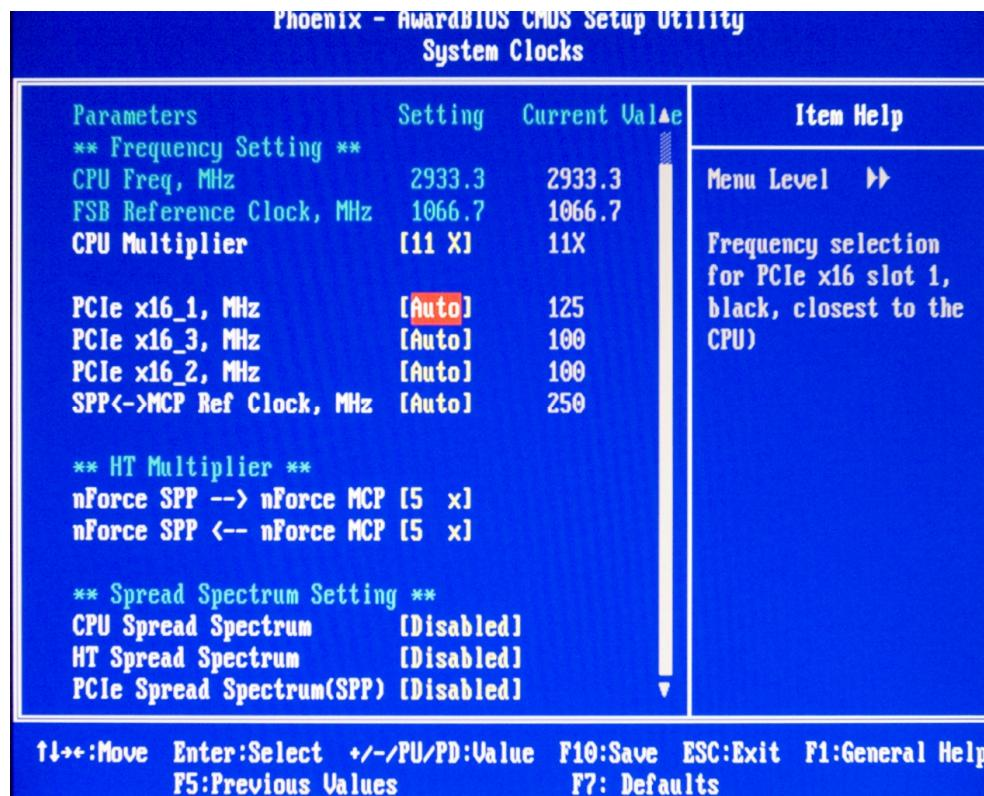

Figure 10. PCI Express Settings
4. To change any of these values, press **ENTER** and it brings up a menu you can choose from, as shown in Figure 10.